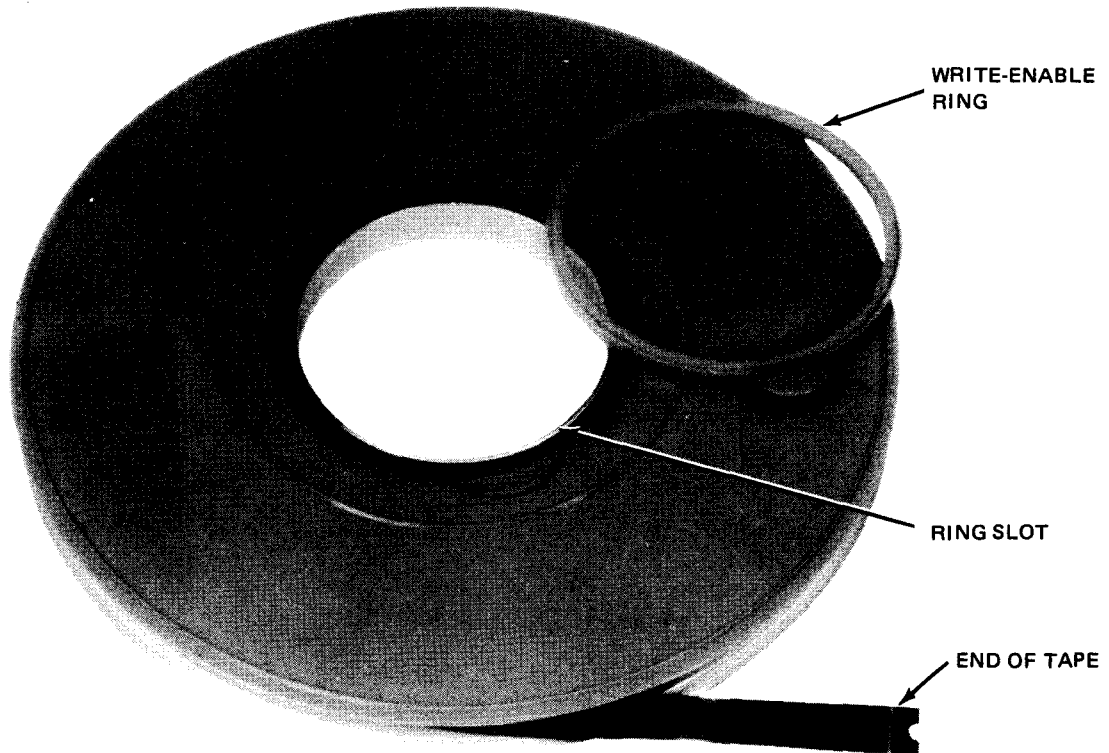

Figure 4-47. Tape Reel and Write-Enable Ring
- If writing is to be done on the tape, a write-enable ring must be used. Figure 4-47 illustrates the back of the reel of tape and a write-enable ring. The ring fits into a slot in the reel.